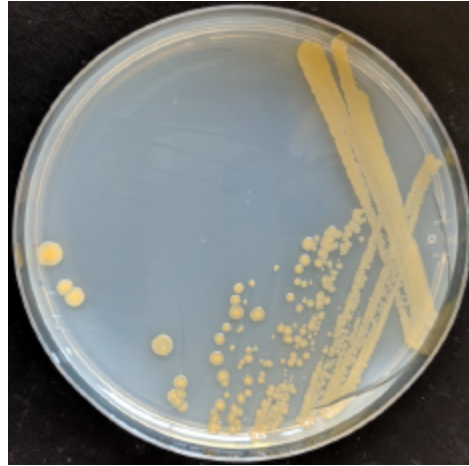

Figure 4.0-4. *Microbacterium testaceum* growing on an agar plate
M. testaceum colonies are tan to yellow in color, smooth and glossy (Figure 4.0-4). When incubated for prolonged periods, or when grown at room temperature, the color of the colonies are a brighter yellow. A liquid culture of *M. testaceum* inoculated from a single colony will take 24 - 48 hours to form a saturated liquid culture, exhibiting a tan to yellow color, which intensifies with prolonged incubation or when grown at room temperature. The strain you will work with, *M. testaceum* SEA B-24232, is not inhibited by the antifungal cyclohexamide. Therefore, cycloheximide can be added to the growth media to prevent other microorganisms from growing in your cultures.